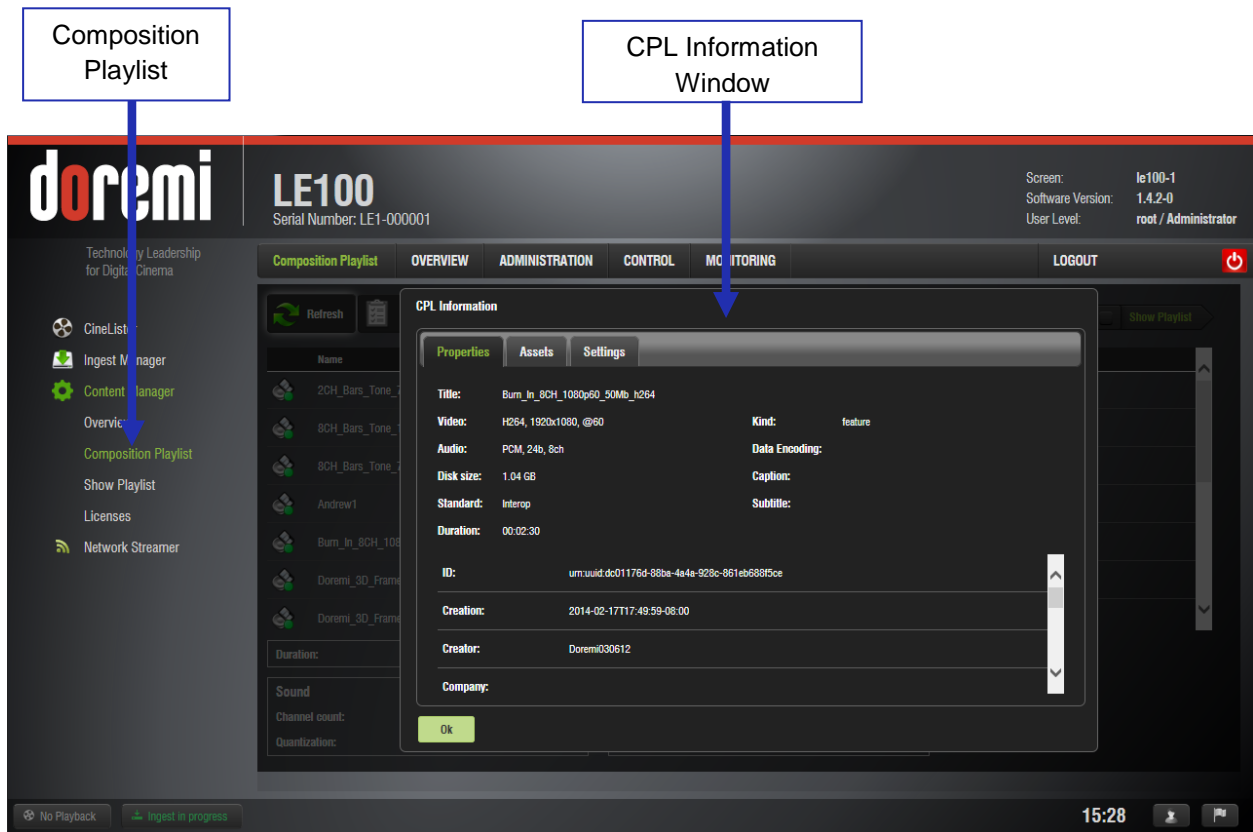

Figure 25: Control Tab – CPL Information
- Click on the Content Manager link and then the Composition Playlist link on the left side of the GUI (see Figure 25).